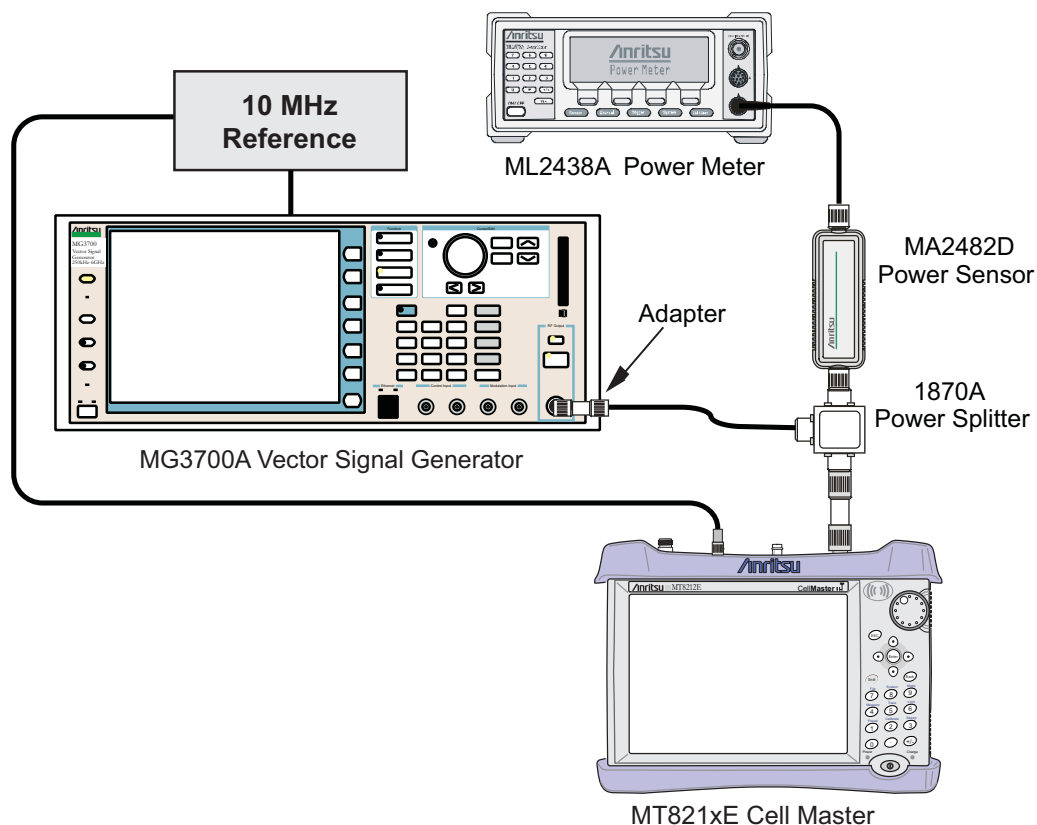

Figure 5-6. GSM/EDGE Signal Analyzer Option Verification
2. Connect the equipment as shown in Figure 5-6.
5. Set the MT821xE mode to GSM/GPRS/EDGE Signal Analyzer. Press **Shift** and press **Preset** (1) to preset the MT821xE.
1. Confirm that the equipment settings are unchanged from the previous test. Refer to Figure 5-6 on page 5-27.